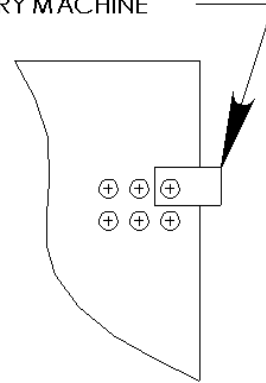

Figure 2
- When the jumper is in the off position the board is setup for receiving triggers from the laundry machine (See Figure 2).